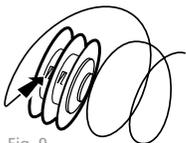

Fig. 9
3. Attach the nylon on the reel (arrow in Fig.9) and wrap it carefully.